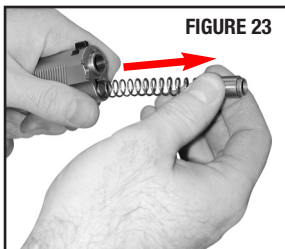

FIGURE 23
- Maintain a grip on the recoil spring retainer as it pushes out and catch the recoil spring (FIGURE 23).